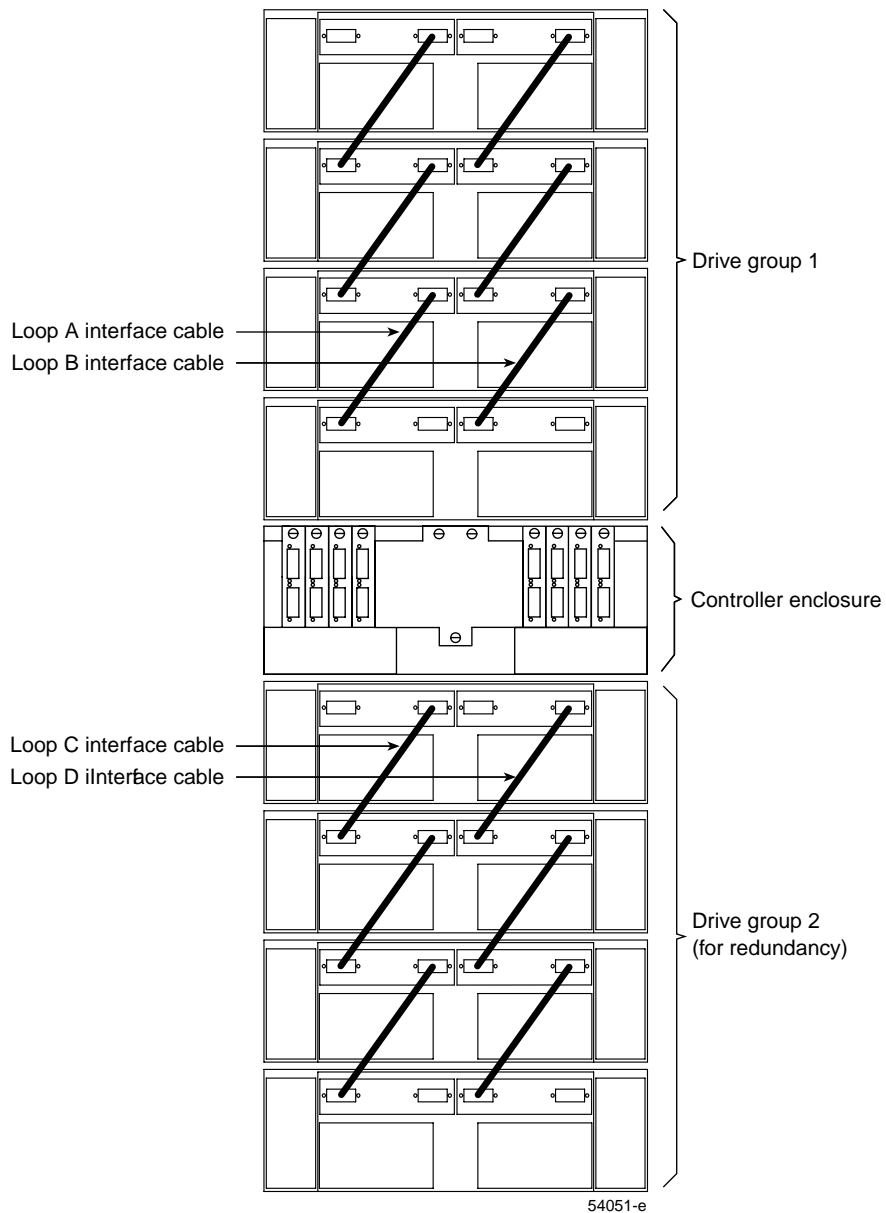

Figure 8-3 Connecting a Second Redundant Drive Loop
4. Repeat steps 1 through 3 to cable a second drive group in the same manner (loop C and loop D on drive group 2) (see Figure 8-3).